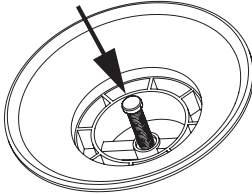

Figure 1. Inflate/Deflate operation of the Military Valve
- 1) Starting with the two side Main Chambers (1&2), remove the valve cap and check to be sure that the valve plungers are UP or in the INFLATE position (See figure 1 on previous page)